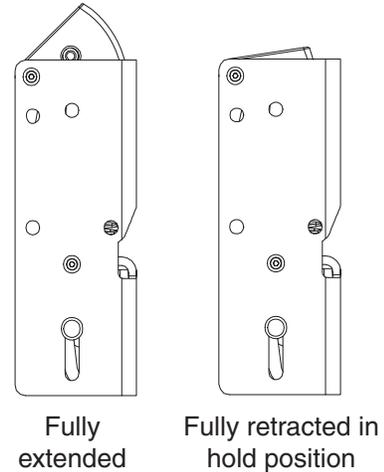

Figure 11-1
- b. Set top latch in fully retracted (hold) position (Figure 11-1).